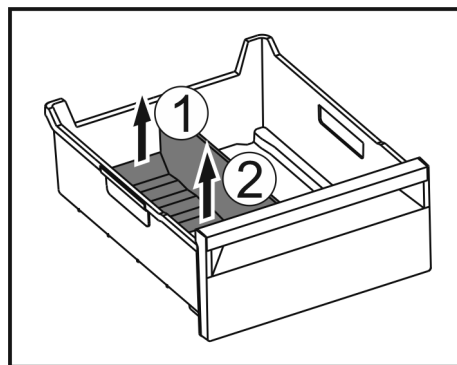

Fig. 138
- Lift the rear part of the ice compartment divider. Fig. 138 (1)
- Remove the ice compartment divider upwards. Fig. 138 (2)